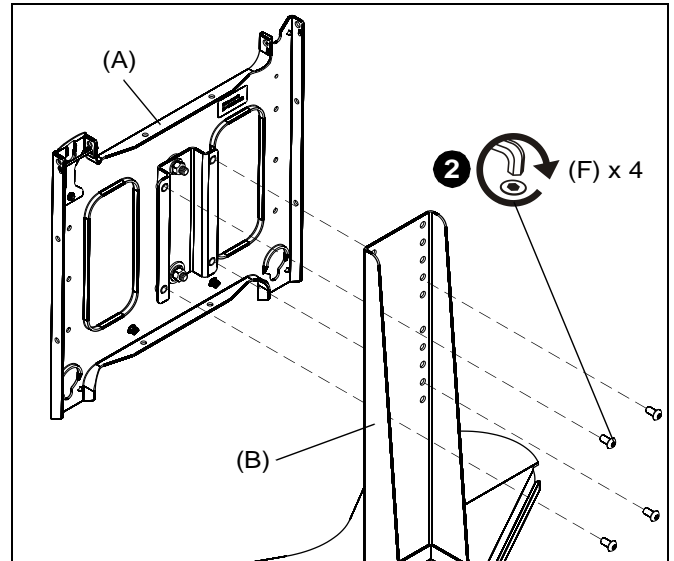

Figure 3
- Align mounting holes in faceplate assembly (A) with holes in post assembly (B). (See Figure 3)
- Attach faceplate assembly to post assembly using four 5/16-18 x 5/8" button head cap screws (F). (See Figure 3)